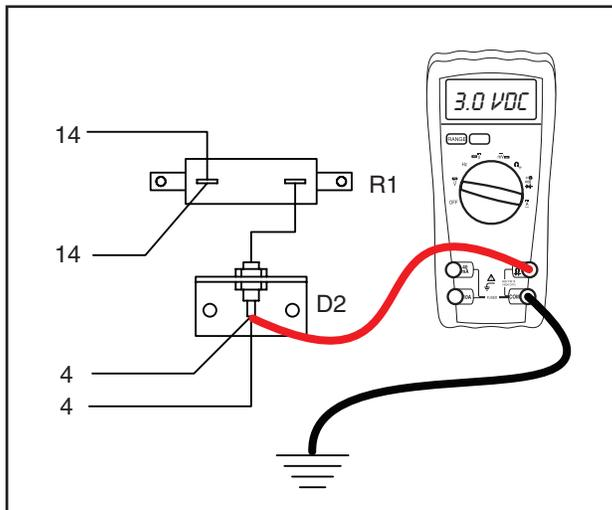

Figure 6-14. – Testing Field Boost
5. Connect the positive meter test lead to Wire 4 at the diode (D1), Wire 4 is soldered to the diode. See Figure 6-14. Connect the negative meter test lead to the ground terminal.